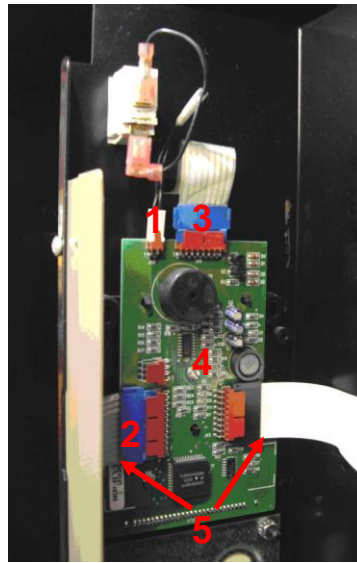

Figure 5
9. Unplug (1) J48 door interlock switch, (2) J46 selection keypad and (3) J49 Service keypad from Display PCB located on the back side of the monetary panel. Remove the (4) Display PCB and ribbon harness by removing the (5) two ¼" HEX screws securing the display mounting bracket. The screws are located behind the ribbon cables as shown. Also remove the top two screws securing the plastic frame of the selection keypad and display lens. DO NOT DISCARD THE SCREWS OR DISPLAY MOUNTING BRACKET. See Figure 5.